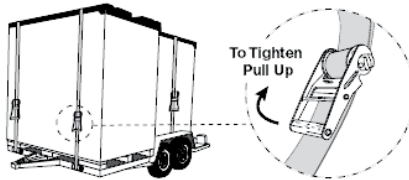

Figure 11
3. Verify that all three retaining straps around both U-Boxes (two for the front and one for the rear) are secure and tight (**Figure 11**).